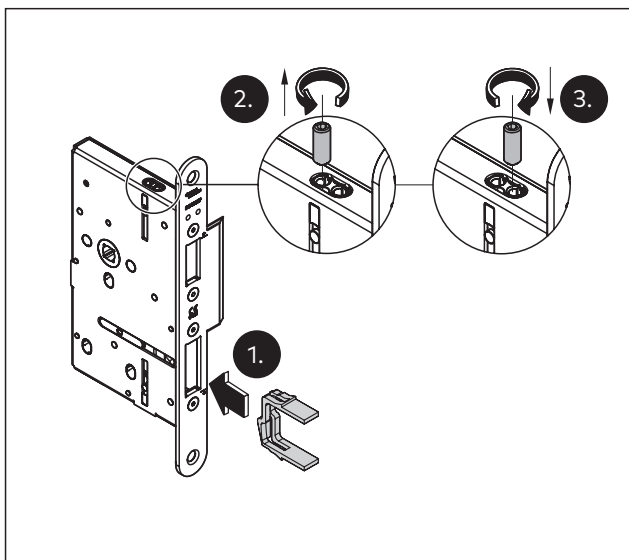

Fig. 37 Move the position of the espagnolette bolt
3. To change the screw-in position of the espagnolette bolt if necessary: Screw the grub screws at the top of the lock from one drill hole to the other (Abb. 37).